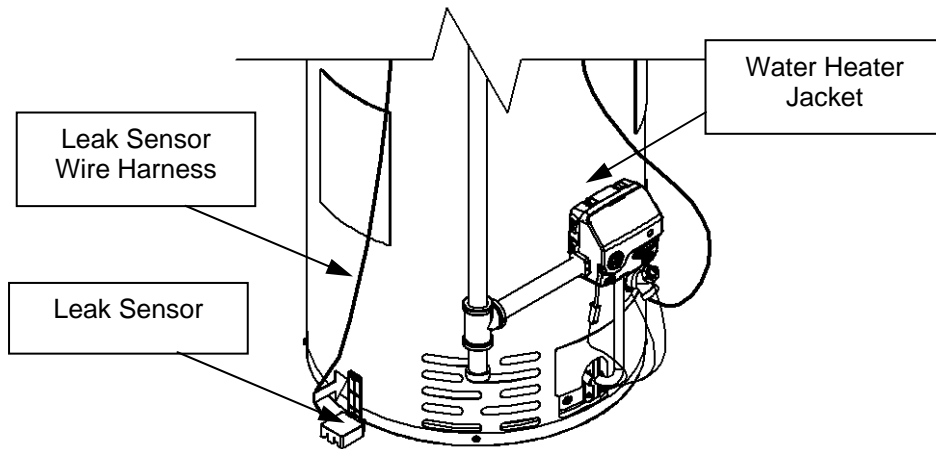

Figure 66
Step 15: Put the Leak Sensor back in position against the water heater jacket and position to the pre-drilled hole, as shown in Figure 66.